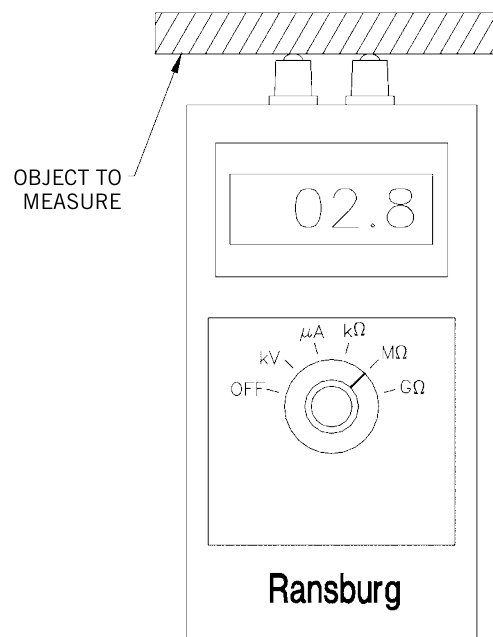

Figure 2: Sprayability Test Meter
1. Set the meter dial to the  $M\Omega$  or  $G\Omega$  scale (see Figure 2). Check the meter calibration by touching the metallic end of the two (2) probes on the meter to the stripped bare ends of a single 12" long wire (see Figure 2). (If desired the continuity of the wire may be verified by using a Volt-Ohm meter). If the meter reads zero, the meter is in calibration. If it does not